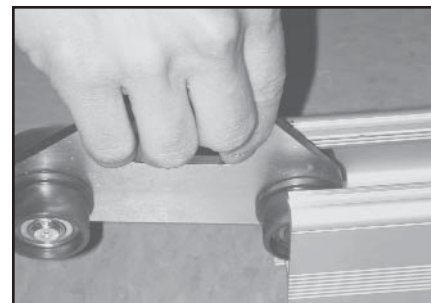

Figure 26
25. Slide the standard trolley into the rail (Figure 26).